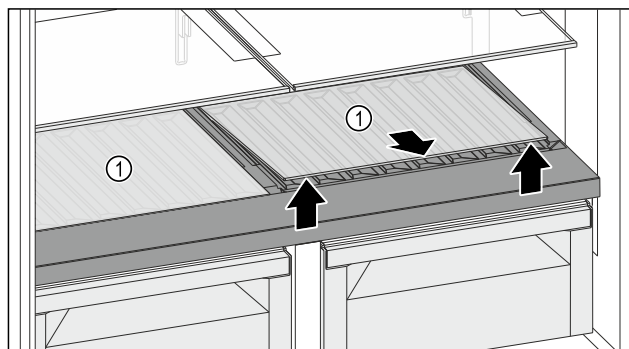

Fig. 121
- Lift one or both of the glass shelves Fig. 121 (1) in the front at the recess and pull it/them out.
- Store the glass shelf(ves) Fig. 121 (1) somewhere safe outside of the appliance.